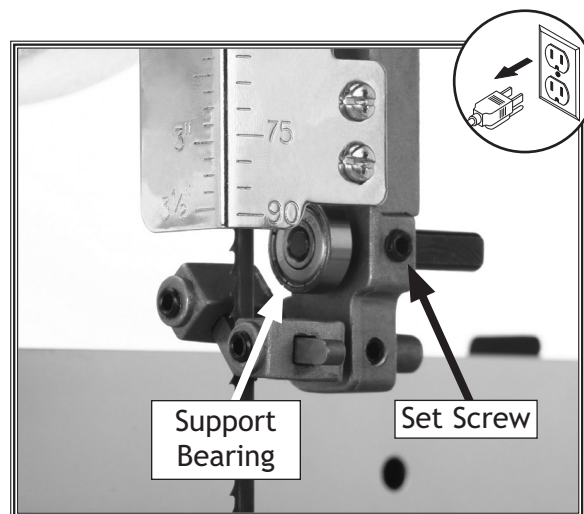

Figure 32. Upper support bearing controls.
3. Familiarize yourself with the upper support bearing controls shown in **Figure 32**.
4. Loosen the set screw on the support bearing shaft (**Figure 32**).